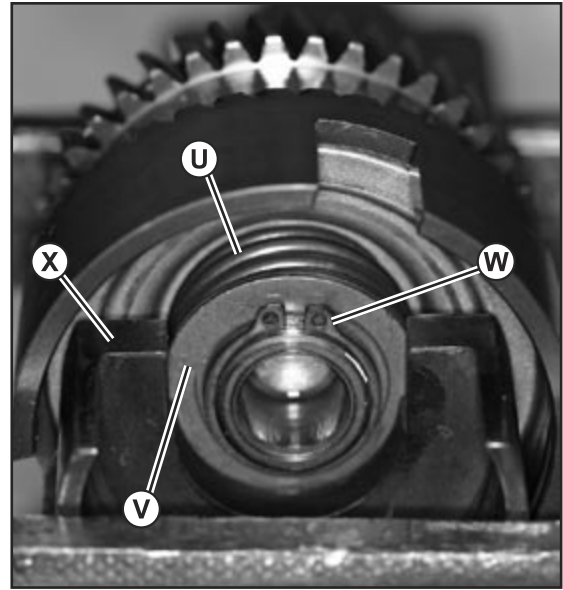

Fig. 42, Clutch Disassembly
5. Remove piston from clutch gear/hub. Use a transmission gear spacer (X) to compress spring (U) and washer (V) in a vise. Remove snap ring (W) and slowly release force of spring. (Fig. 42)